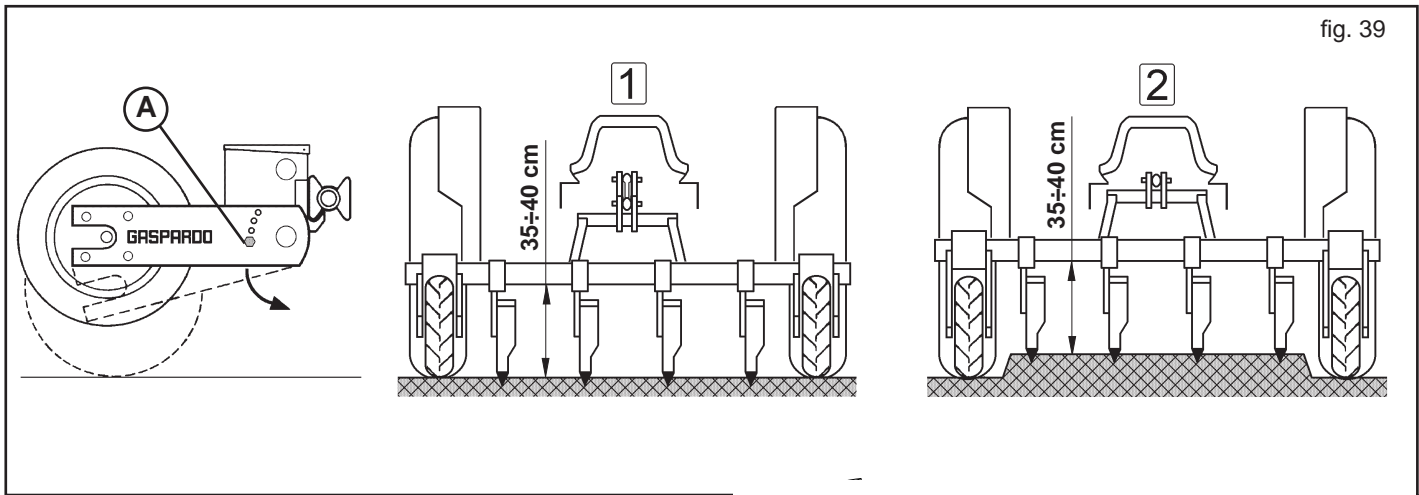

fig. 39
- unthread the screw (A, Fig. 39);
- Rotate the wheel support until the indicator (B, Fig. 39) matches the screw (C, Fig. 39).